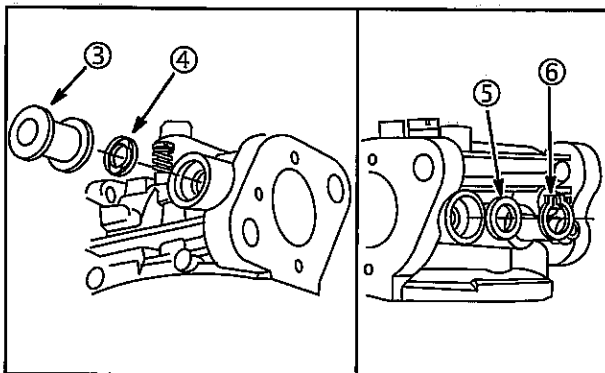

Fig. 34
4. Assemble new throttle shaft seal (4) with sealing lip out, **Fig. 34**.
5. Install throttle shaft with collar (3).
6. Install washer (5) and snap ring (6).